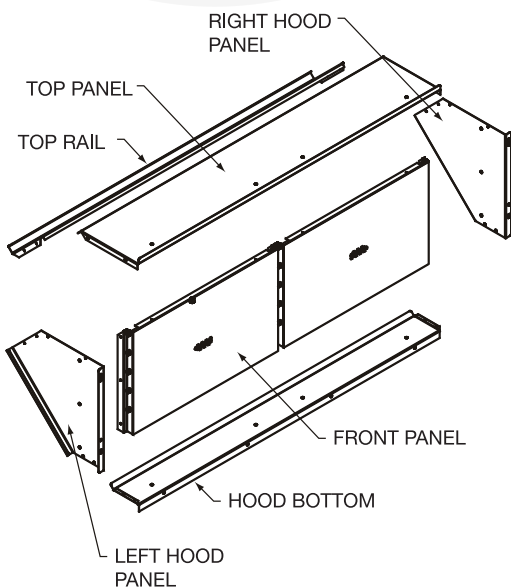

Fig. 19 — Assemble Barometric Relief Hood
4. To assemble the barometric relief hood, the following will be needed. See Fig. 19.